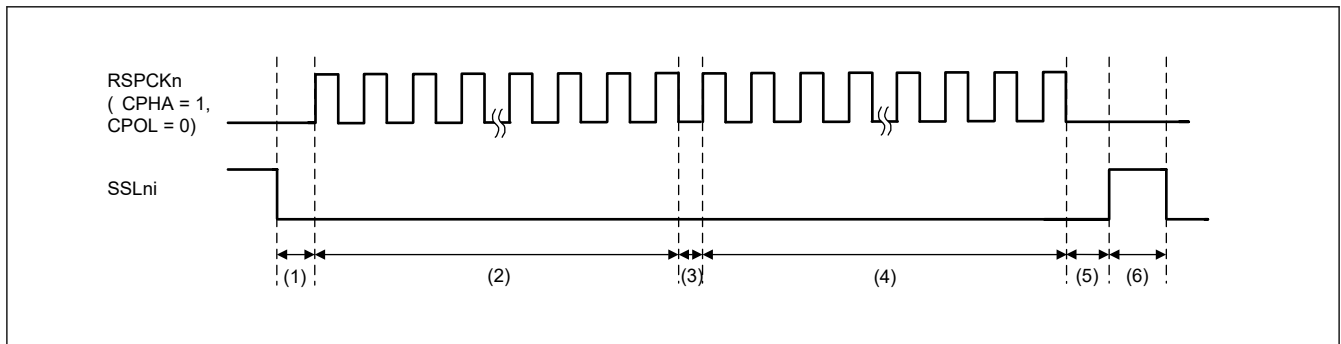

Figure 44.61 Example of Burst Transfer Operation Using SSLKP Bit (BFDS = 1, SPFRF = 0)
Figure 44.61 shows an example of SSLni signal operation when burst transfer is achieved by using the settings of SPCMD0 and SPCMD1. The following describes SPI operations of (1) to (6) shown in Figure 44.61. The SSLni output signal polarity depends on the set SPI SSLi signal polarity bit (SPCR3.SSLiP) (i = 0 to 3) value.